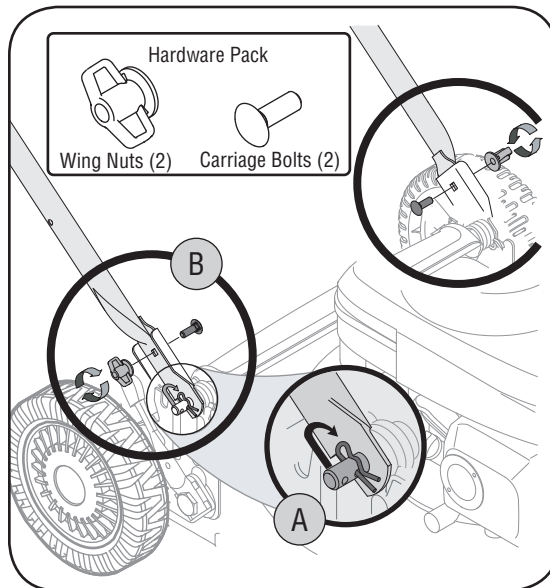

Figure 3-2
- a. Remove hairpin clip from this hole. Using a pair of pliers, insert hairpin clip into the other hole on the weld pin. See Figure 3-2. Repeat on other side.